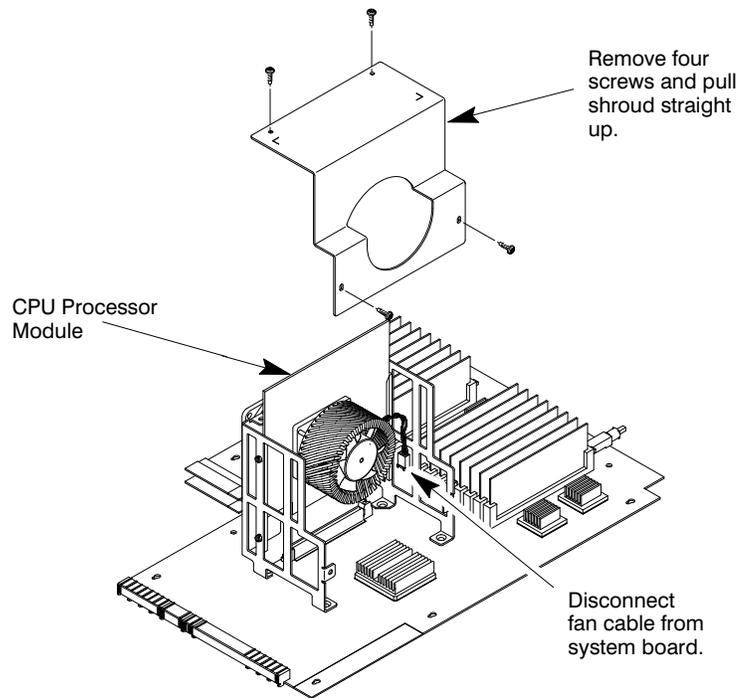

Figure B-28. Removing CPU Shroud and Disconnecting Fan Cable
6. Disconnect the fan cable from the system board. Refer to Figure B-28.